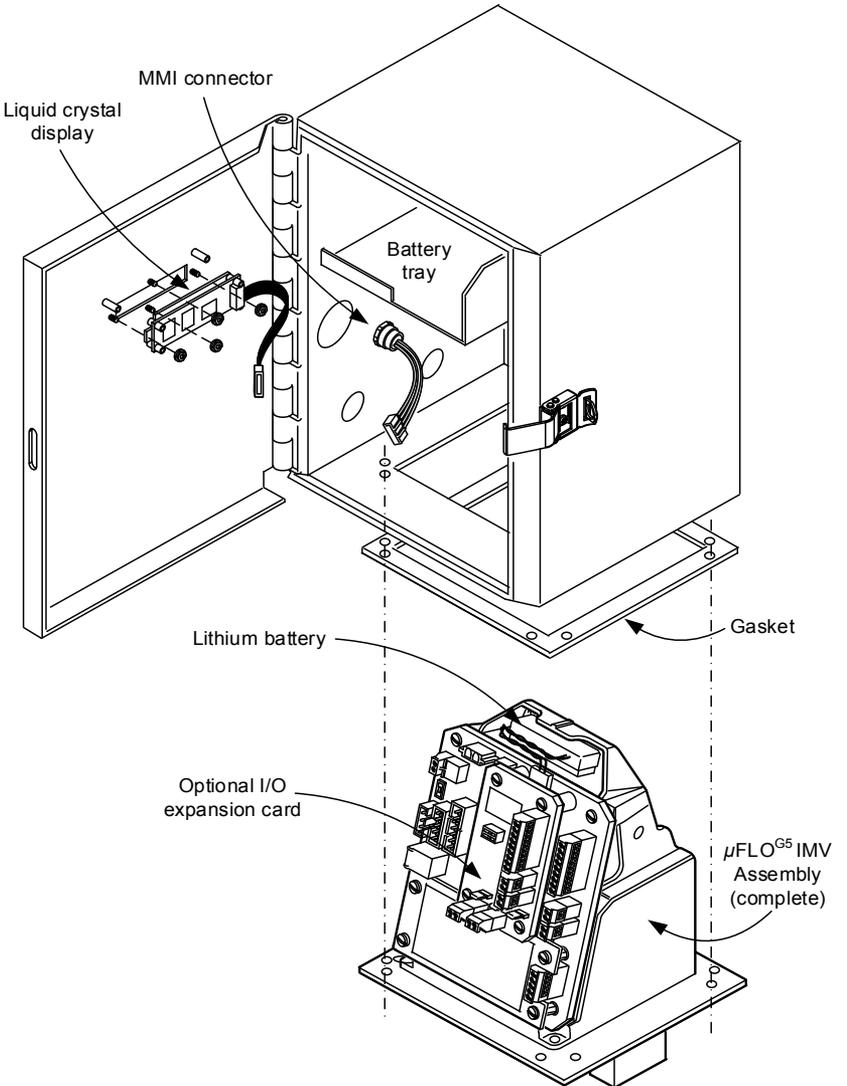

Figure 6: μ FLO IMV replacement
1. Place the clean weather sealing gasket over the upper body of the IMV assembly and move the gasket down to the mounting plate just below the electronic board (Figure 6).